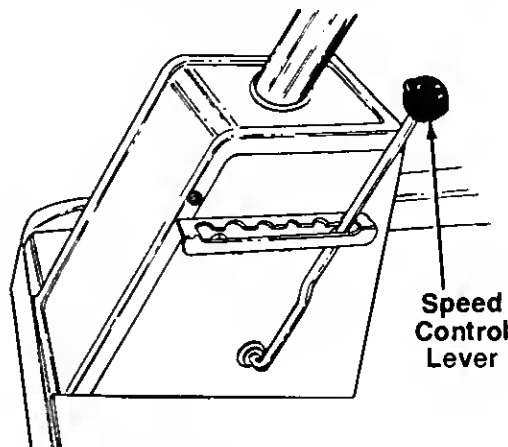

FIGURE 16.—Model 13504 Shown
The throttle control is used to regulate the engine speed. The engine should be operated from 3/4 to full throttle when operating the cutting deck. See figure 16.
The speed control lever allows you to regulate the ground speed of the riding mower to one of six settings. See figure 16. To set, depress clutch pedal. Push speed control lever outward and move backward to slow rider, move forward to increase speed. When desired speed has been obtained, place lever in that position. Whenever clutch is engaged, rider will automatically go to the pre-set speed.
7. Turn the ignition key to the START position. As soon as the engine starts, let the key return to the ON position. See figure 16.